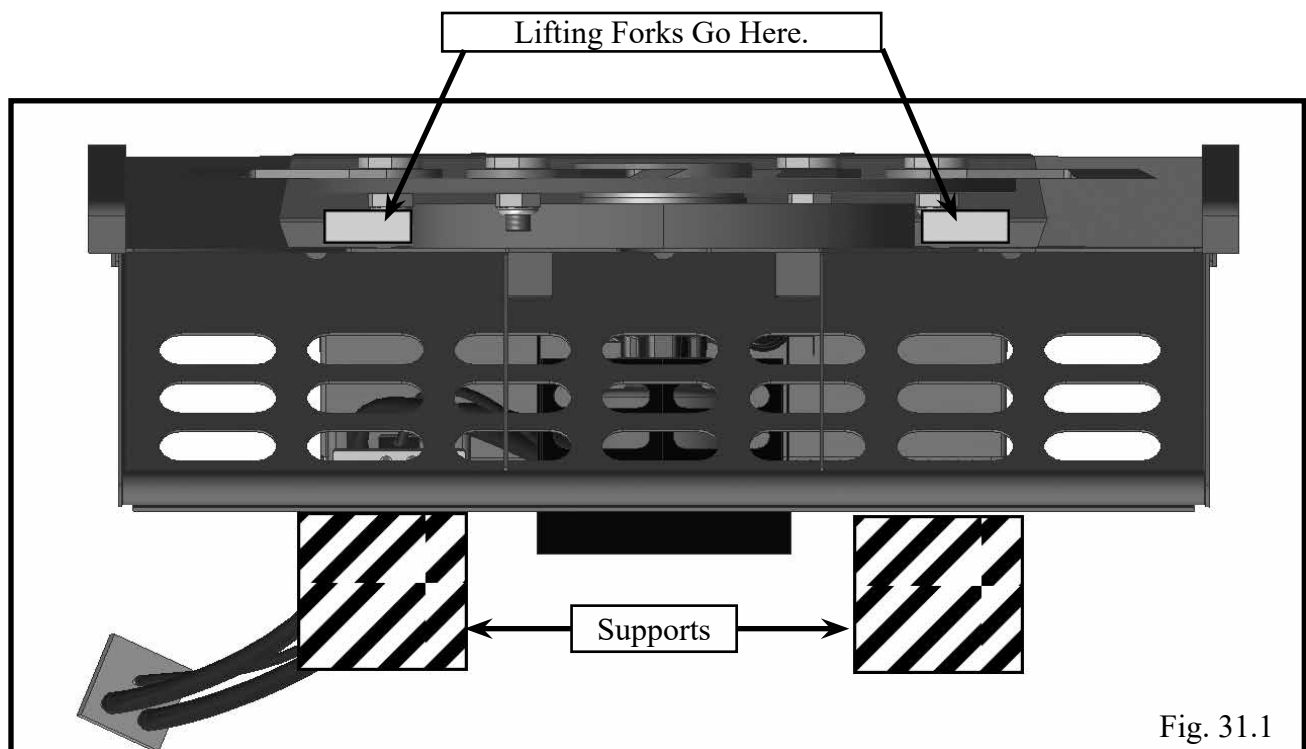

Fig. 31.1
**Step 2. With the cutter deck safely supported in an upside down horizontal position, using a forklift or forklift attachment with the forklift blades 34.5" apart, place the blades below the blade bar, as shown in Fig 31.1.**